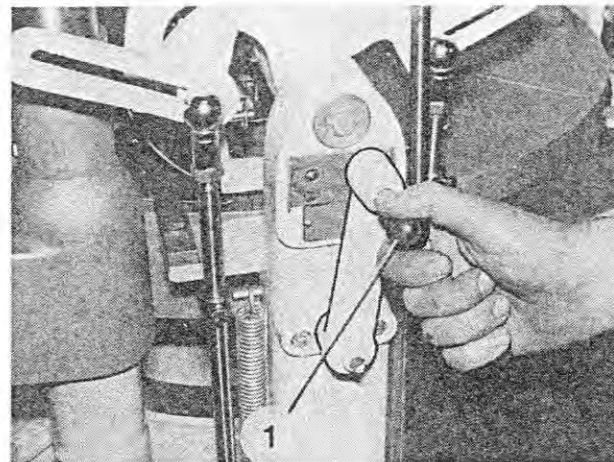

Fig. 194
1. Pull out the index pin (Figure 194/1) and switch off the dosing unit by reversing the lever.